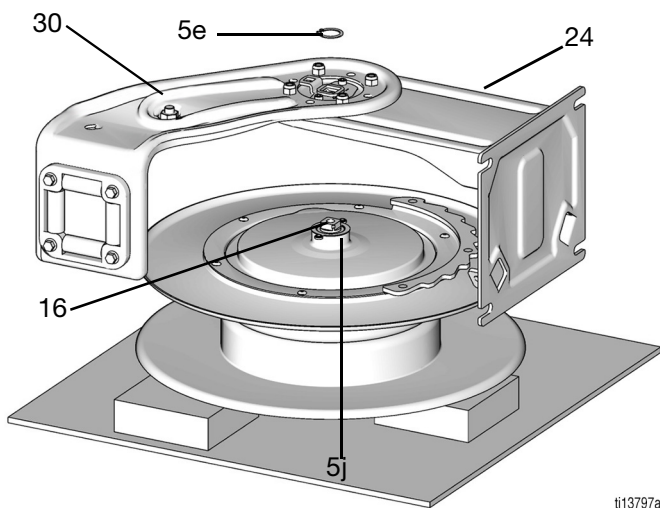

FIG. 22
10. Remove the snap ring (5e) (FIG. 22).
13. Place the new spool (5) on its side on a work bench, with the flat side of the spool facing downward and the ratchet side facing upward, see FIG. 22.
14. Position the guide arm (30) and pedestal base (24) assembly over the spool. Adjust, as needed, to align the parts.
NOTE: Re-attaching the guide arm (30) and pedestal base (24) assembly is easier when the spool (5) is supported and level. Placing 1 in. (25 mm) scrap wood blocks under the spool, as shown in FIG. 22, supports it during installation of the arm.
17. Install washers (15 and 17) and the long bolt (18), but do not tighten the bolt.
19. Place the guide arm (30) and pedestal assembly (29) over the swivel assembly and spool (5).
20. Install large nut (11) and tighten (torque 85 - 105 ft-lb/115.2 - 142.4 N•m) (FIG. 22).
21. Tighten the bolt (18) (torque 25 - 35 ft-lb/33.9 - 47.5 N•m).
22. Align the guide arm (29) and guide arm (30), then install screws (27) and tighten (torque 20 - 30 ft-lb/27.1 - 40.7 N•m).
23. Align the pedestal assembly (26) to the base (24). Install two screws (27) and tighten (torque 20 - 30 ft-lb/27.1 - 40.7 N•m).